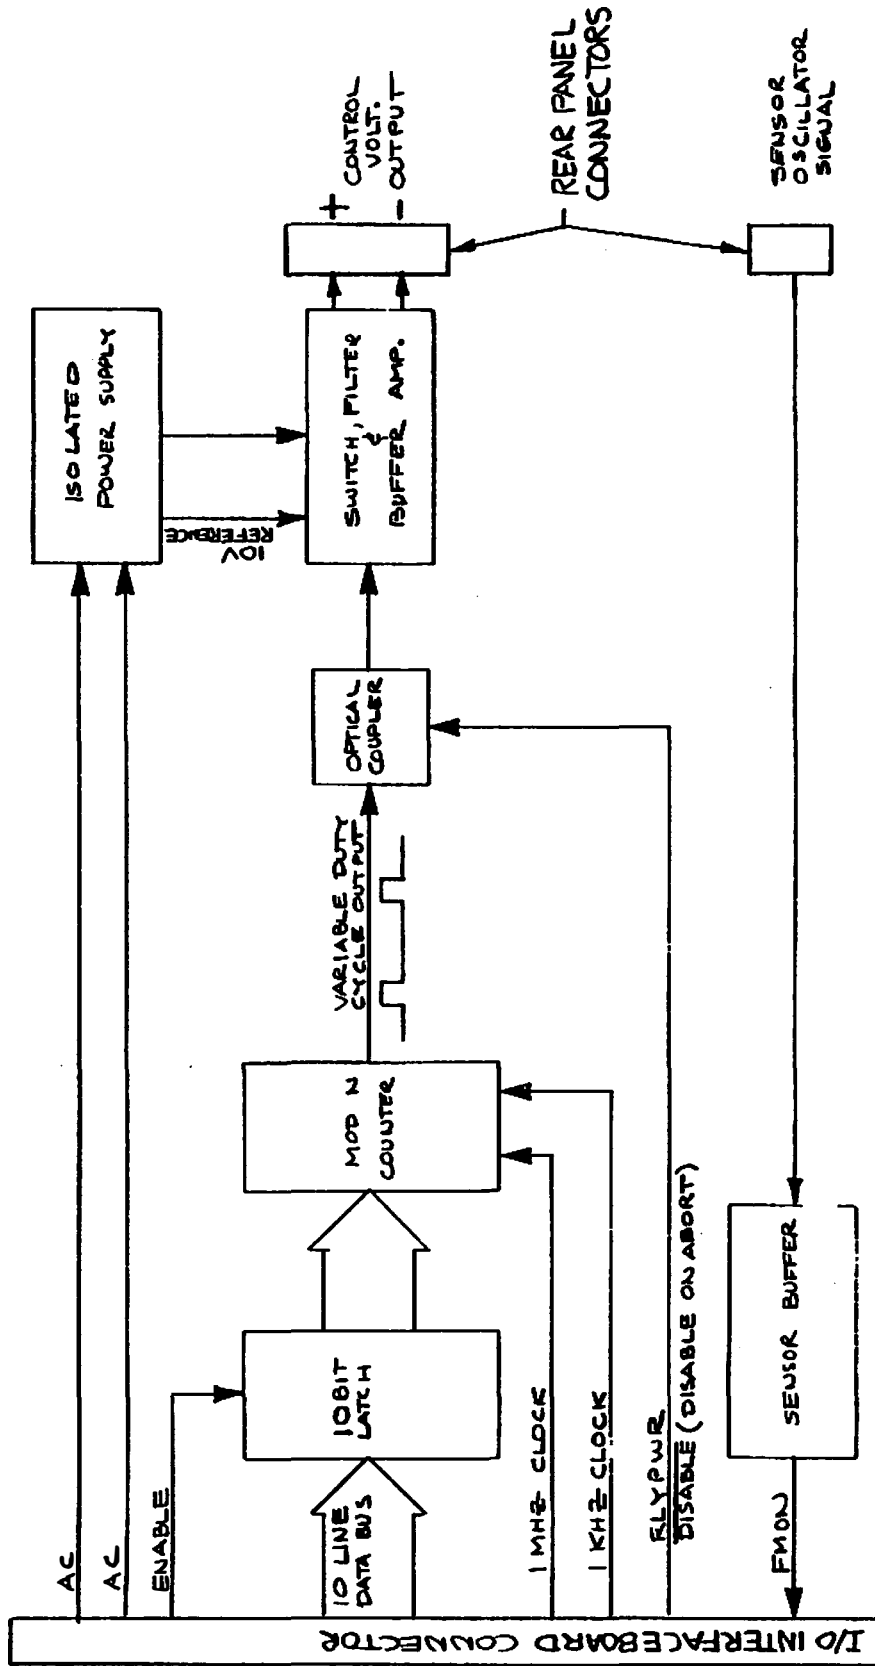

Figure 8-6 Source-Sensor Board, Block Diagram
- e) SOURCE-SENSOR BOARD: A block diagram of the Source-Sensor board is shown in Figure 8-6.